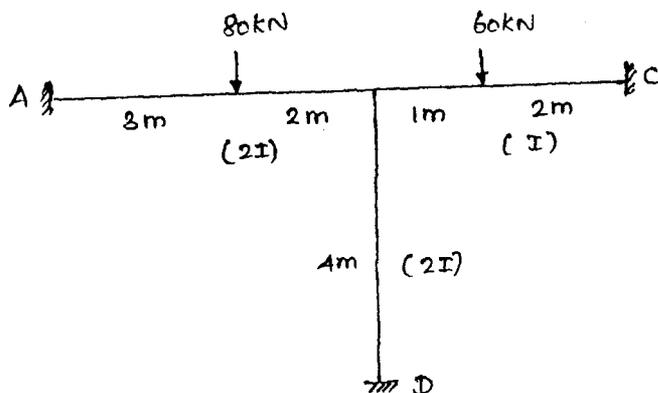

Fig. 8
- (b) Analyse the structure loaded as in Fig. 8 by the moment distribution method and sketch the bending moment and shear force diagrams.